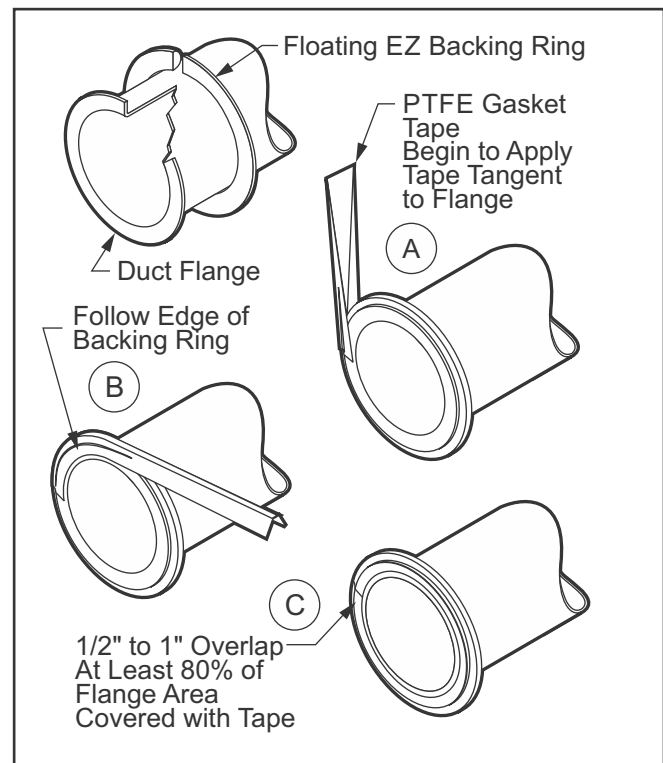

Fig. 13: Apply gasket for 4" to 14" PSP-EZ™ duct
is now applied which comes as an adhesive backed tape. Start (A) by applying the tape to the flange surface first at an angle tangent to the duct opening. Firmly press the tape onto the flange. There will be enough width to the tape so that you will be able to press the tape onto the back side of the backing ring. Holding the end of the tape firmly in place, continue applying the tape (B) by pulling and tacking it along the edge of the backing ring. To complete this process, (C) overlap the tape ends 1/2" to 1". Then go back and firmly press the tape onto the flange and backing ring to guarantee complete adhesion. The gasket tape has a secondary function to helping to hold the backing ring firmly against the flange. Make sure that at least 80% of the flange surface area is covered with the sealant tape. (Fig. 13)